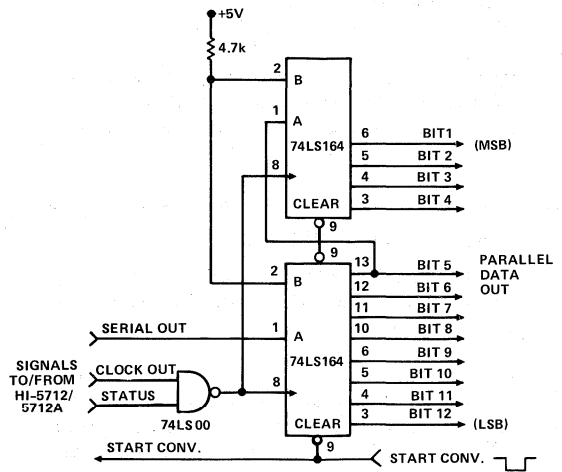

FIGURE 2. DECODING SERIAL DATA OUT
2. See Figure 2 for connections. The initial errors are adjustable to zero by using external trim potentiometers as shown in Figure 3, and 4.